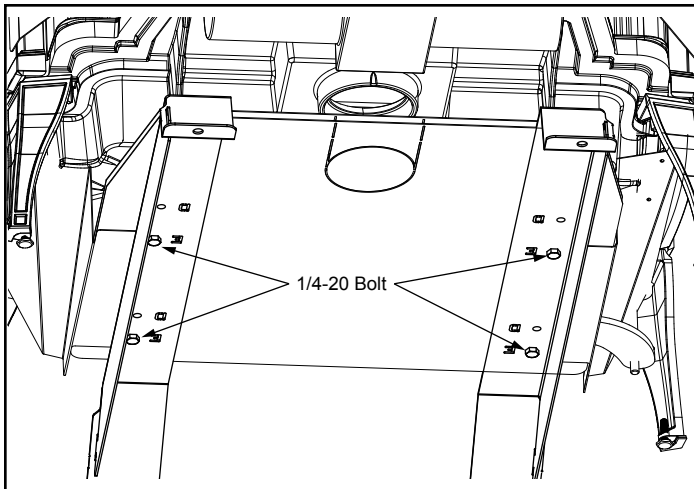

Figure 19 - Remove unit from shipping brackets.
Remove the unit from the shipping brackets by removing (2) 1/4-20 hex head bolts from each shipping bracket, leaving brackets attached to the skid. Figure 19. (Save the 1/4-20 hex head bolts as they will be needed later to install heat shield.)